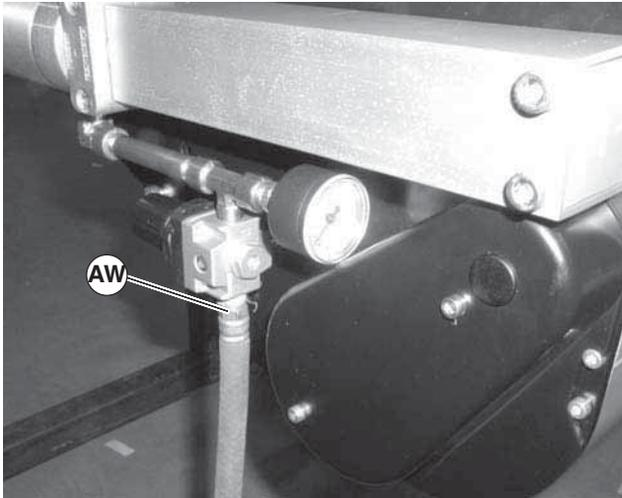

Figure 87
1. Remove air supply and remove hose (Figure 87, item AW) from center drive.